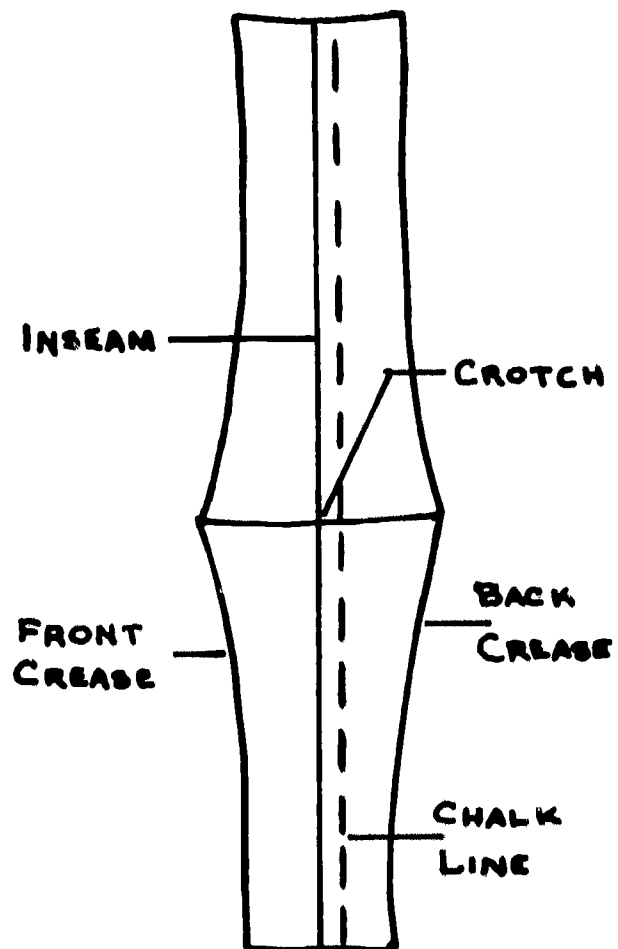

Figure 73.
7. In situations where an additional amount is to be tapered out of the trouser legs, the standard procedure is to mark the amount to be taken out at the cuff as well as at the crotch and join these two markings with a chalk line (see Figure 73). Unless the amount to be taken in exceeds two inches, the back seam does not need to be trimmed.